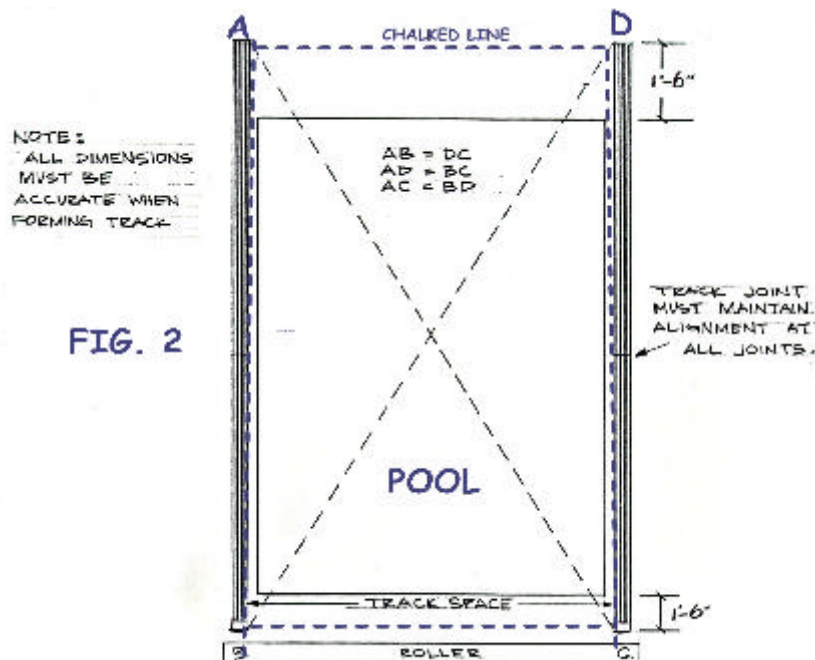

FIG. 2
D. (1) If your pool cover system required only two track sections, place one on each side of your pool, making sure that the "slotted" side of each track faces the water's edge. (2) If your cover system required four track sections, place one "track-spliced" track (see illustration below) and one "non-track-spliced" track on each side of your pool with the "slotted" side of each track facing the water's edge. Lock the tracks together as shown above so that the pre-installed track splice from one track inserts into the end of the second track section. At the completion of this step, your track should be laid out in its approximate position on each side of the pool.
E. This step is very important since it involves the precise spacing of the tracks across the pool. Align the tracks on each side of the pool so that the inside edge of each track is lined up precisely on the chalk line as illustrated in Fig. 2 on the following page. Once your tracks are in position, use your measuring tape to confirm the distance across the pool from track to track, making sure that the distance corresponds exactly to the track space for which your cover system was
F. Adjust the lengthwise positioning of the tracks so that the end of each track is placed against the edge of the roller-end chalked line as shown near the bottom portion of Fig 2. If placed accordingly, the track should extend to the opposite-end chalked line as shown at the top end of Fig. 2.